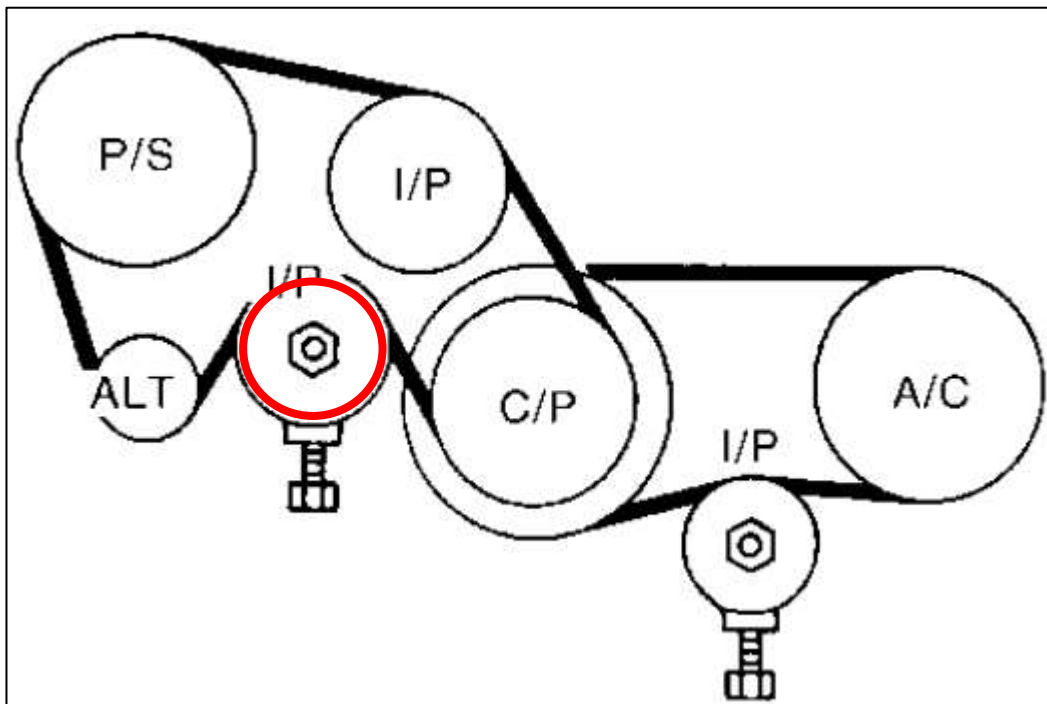

Figure 10
24. Loosen the Bolt on the Tensioner Pulley. *Figure 10.*